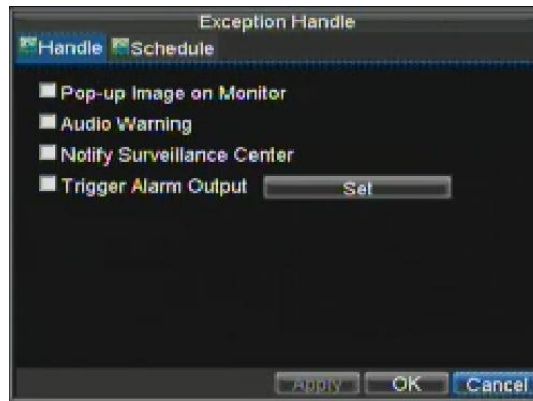

Figure 15. Exception Handle Menu
9. Click the Handle button to enter the Exception Handle menu, shown in Figure 15.